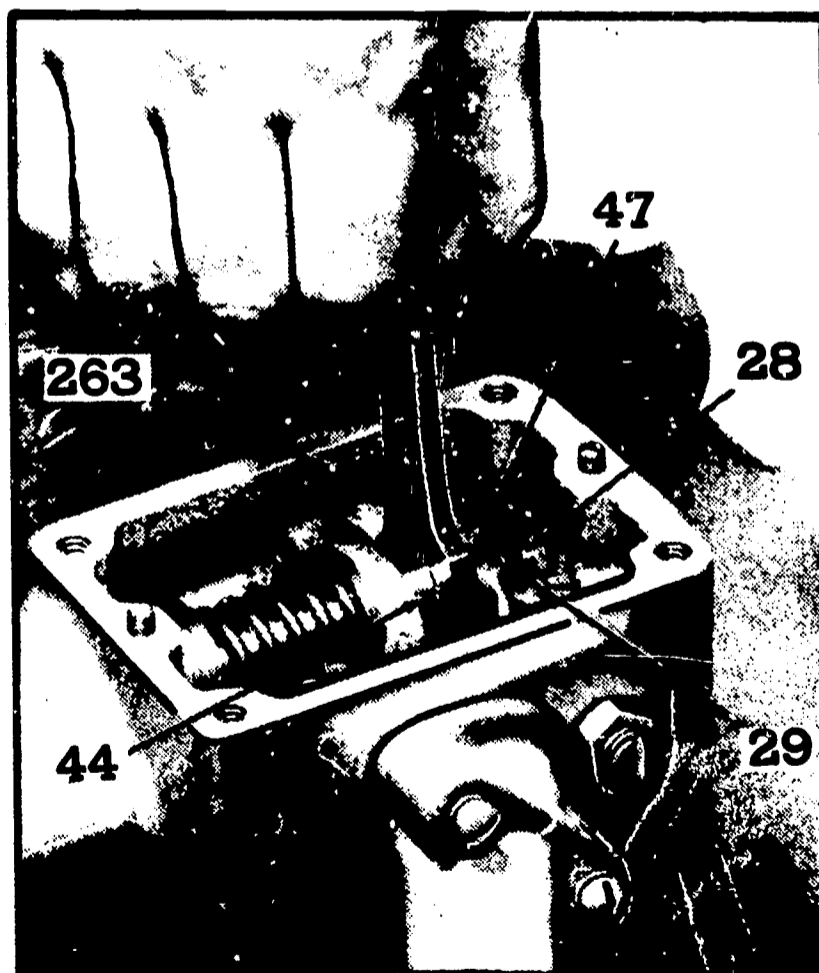

Fig. 3 Adjusting governor gap.
7. Check the gap between the low speed spring cap (47) and the high speed plunger (44) with tool J 5407 (.170") as shown in Figure 3.
8. If required, loosen the lock nut (29) and turn the gap adjusting screw (28) until a slight drag is felt on the gage.